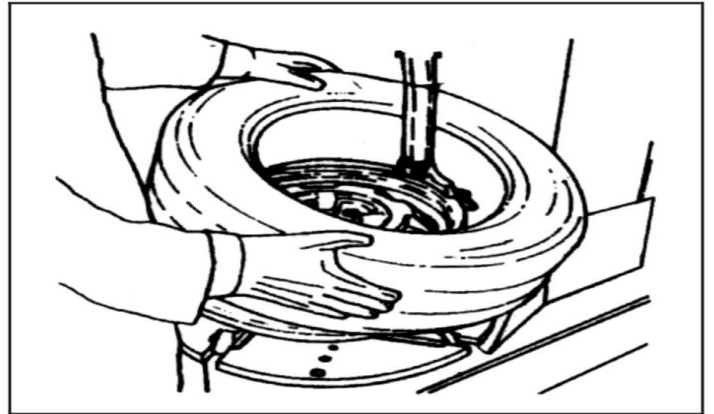

FIG25
4.15 Take out the tube and then move up the lower lip to contact with the upper edge of the rim and repeat the step of 4.1.4. Detach another lip (fig25) . Step the column tilt pedal(fig2-11) and the column tilt backwards and at this moment, you can take off the tire.